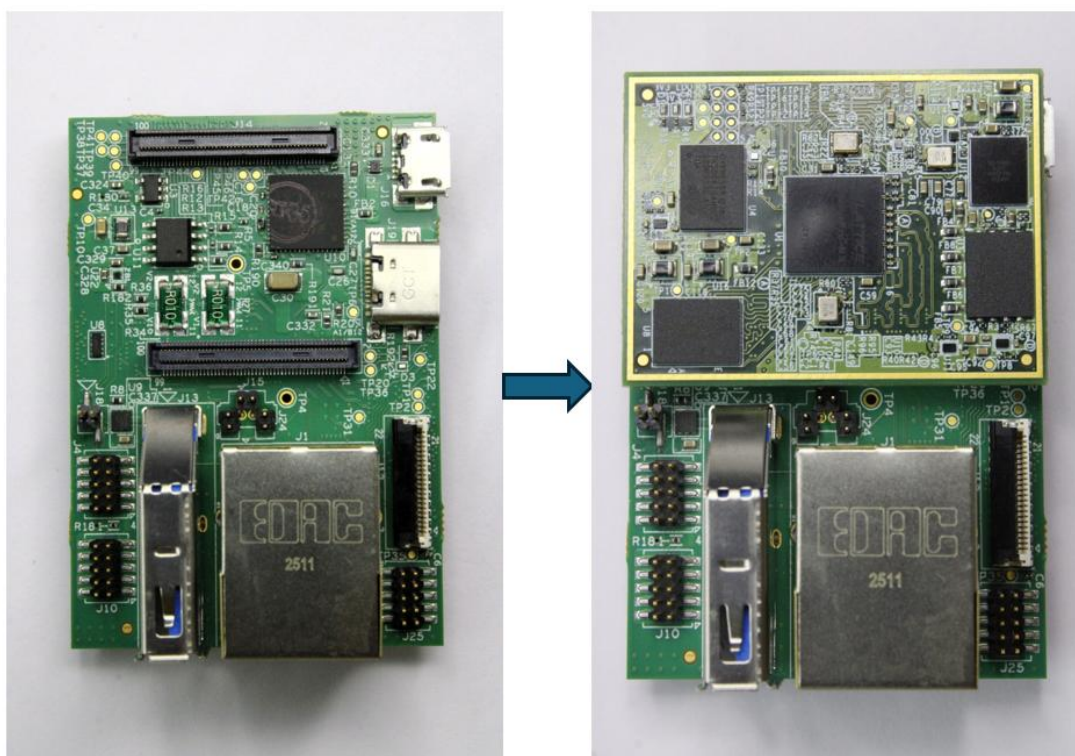

Figure 19.2. SoM and Carrier Boards Assembly
2. Align the SoM board with the carrier board, as shown in the picture below (Figure 19.2). Then, securely fit the SoM board onto the carrier board.